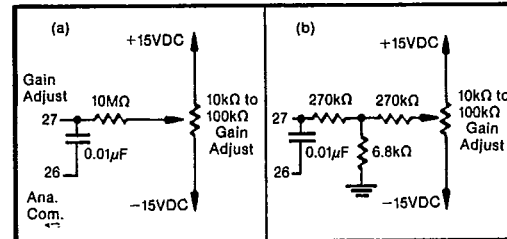

FIGURE 7. Two Methods of Connecting Optional Gain Adjust.
**GAIN**—Connect the Gain adjust potentiometers as shown in Figure 7. Sweep the input through the end point transition voltage that should cause an output transition voltage to all bits on ( $E_{IN}^{ON}$ ). Adjust the Gain potentiometer until the actual end point transition voltage occurs at  $E_{IN}^{ON}$ .